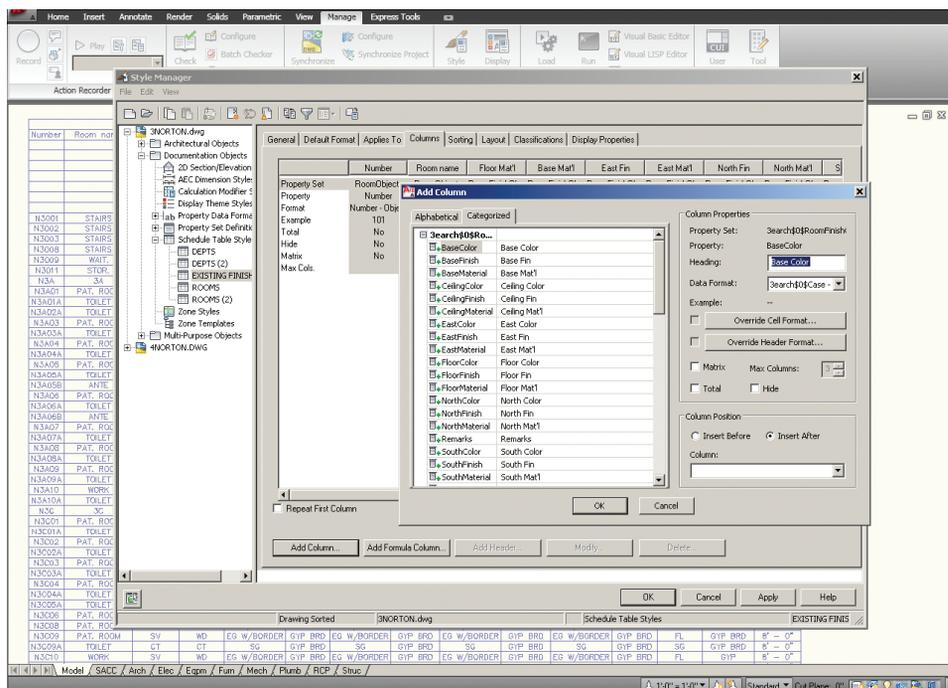

Figure 1: Schedule table style – Add Column.
4. **Columns** allow you to add columns to represent properties that are reported in the schedule table style. You can also add column headings, edit column data, and edit column placement in your style (see Figure 1).